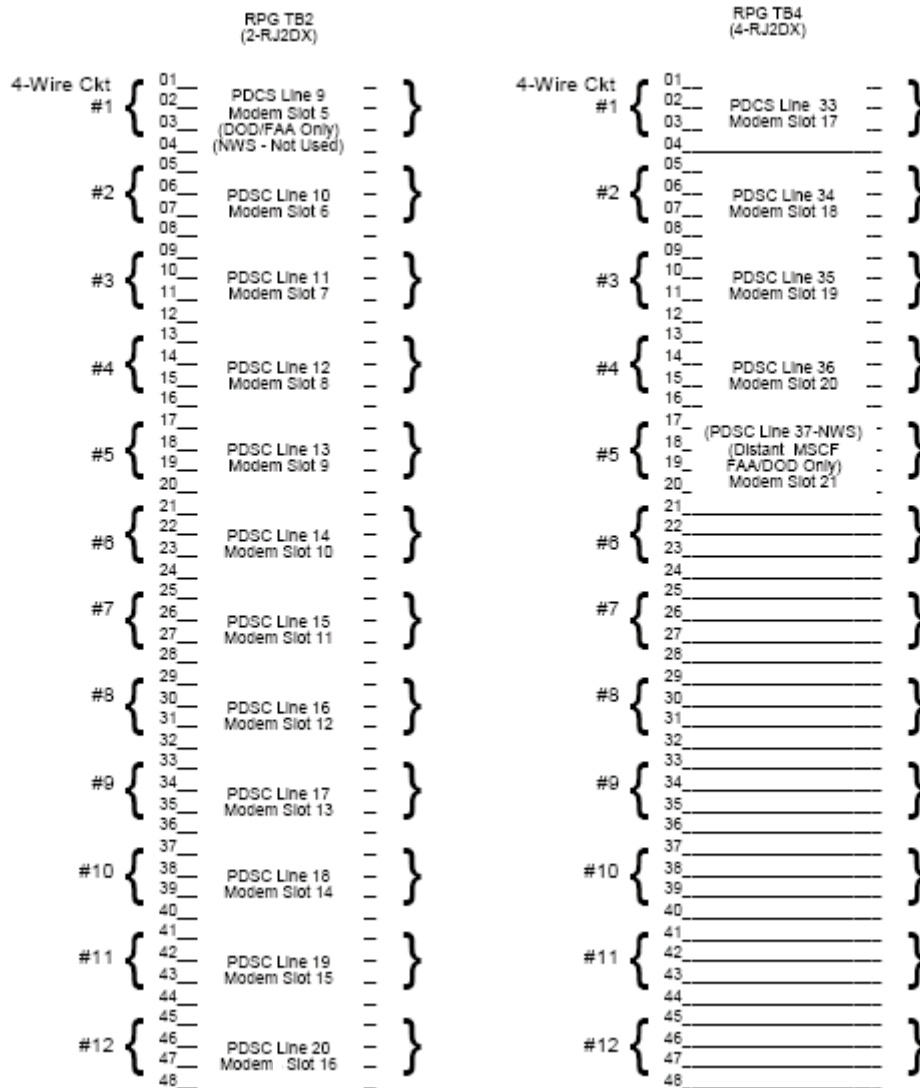

Figure 3-1. Quick Reference Map from RPG HCI PDSC to Modem Chassis to Dedicated Blocks
2. Reference Figure 3-1 to identify the corresponding 4-wire positions on the dedicated punch blocks for each dedicated circuit to be relocated. Mark, as necessary, directly on Figure 3-1 the circuits to be relocated. All circuits will be relocated from TB2 to TB4.
6. Reference Figure 1 to identify the corresponding 4-wire positions on dedicated punch block TB4 (4-RJ2DX) for each dedicated circuit to be installed. Mark, as necessary, directly on Figure 3-1 the circuits to be installed.